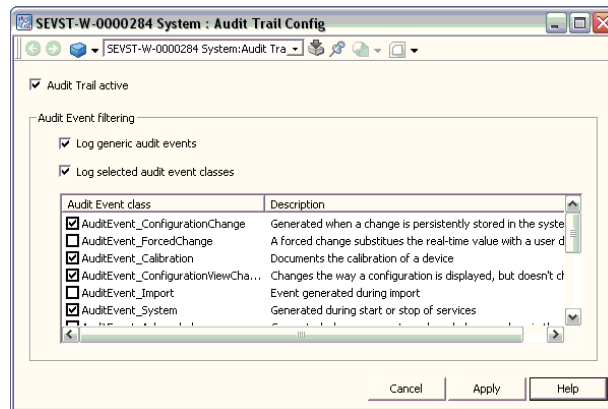

Figure 66. Audit Trail Configuration Dialog Box
3. Double-click on the Audit Trail Config aspect to open the configuration view. See Figure 66.